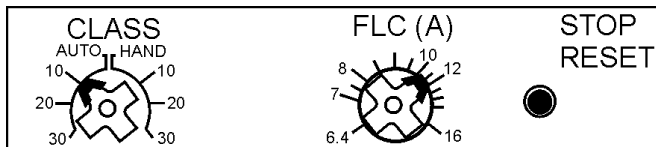

Figure 9. Electronic Overload Unit
There are two dials on the Electronic Overload Unit (Figure 9) that require adjustment to meet the amperage requirement of the pump motor in use.
1. Set the FLC (A) dial pointer (Figure 9) to the correct amperage for the pump motor in use. Use Table 7, to determine the correct amperage setting.
1. Set the CLASS dial pointer (Figure 9) to the HAND position 10. This controls the reset function only. It does not affect the ability of the pump to run with or without float switches.